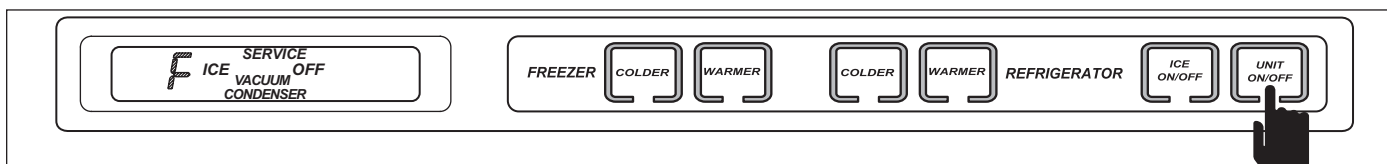

Figure 3-26. Press UNIT ON/OFF Key to Display Location of Thermistor
2. Press the UNIT ON/OFF key at this time to display the location of the thermistor being read, "F" represents the freezer compartment (See Figure 3-26).